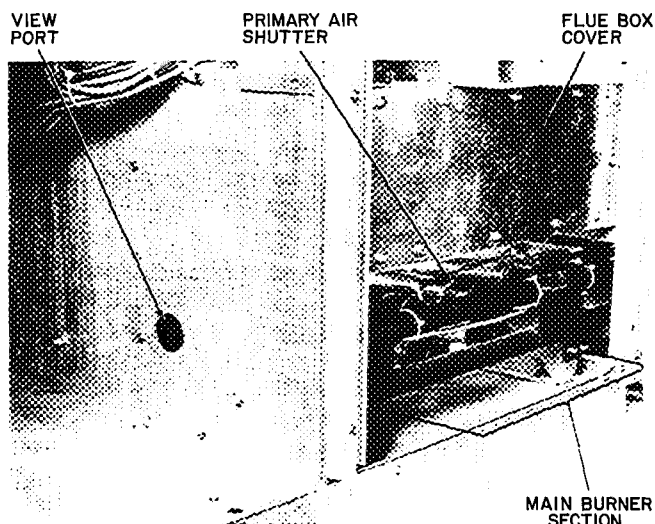

Fig. 35 — Typical Heating Section
5. With a small screwdriver, turn adjustment screw until flame fully engulfs sensor. Flame can be observed through view port (Fig. 35).
4. Loosen primary air shutter (Fig. 35) and adjust to a minimum opening of $\frac{5}{8}$ inch.